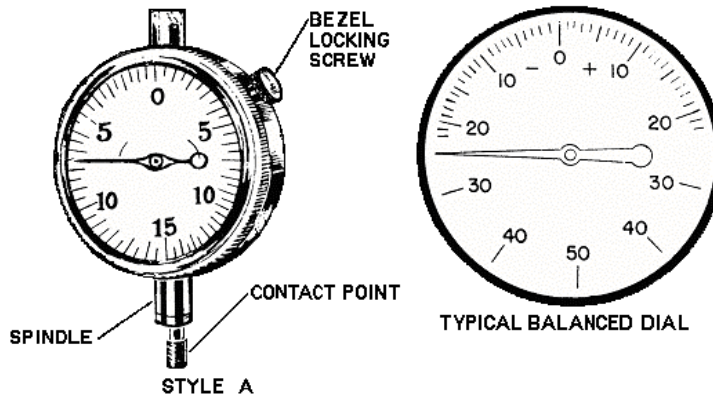

Figure 2. Dial indicator – typical views.
a. Loosen bezel locking screw (fig. 2) and rotate bezel 360°.